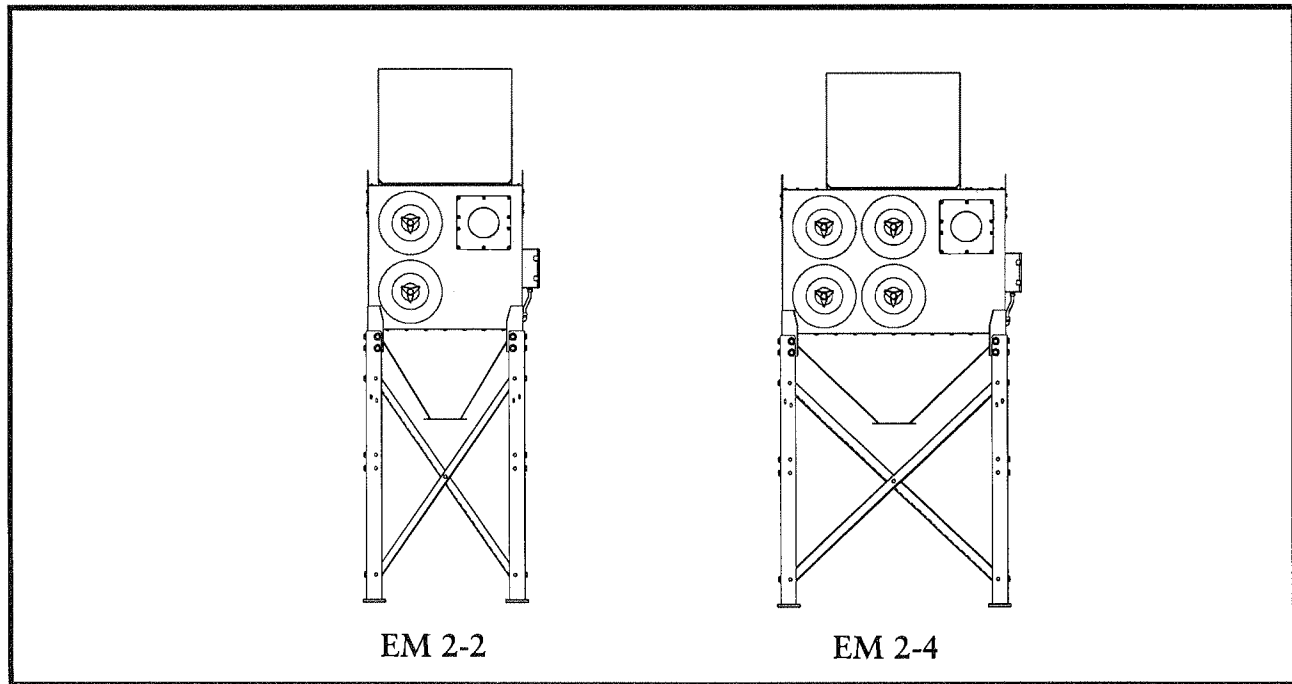

Figure 4
2.5.2 Leg Installation (See Figures 4 and 5)
The position of the legs and crossbracing for each collector size are shown in Figure 4. Please refer to the Leg Assembly drawing which accompanied the leg set for proper location and assembly. All leg designs are rated for seismic zone 3.
1. Stand the leg set up and position as shown in Figures 4 and 5.
5. Recheck the position of the leg sets and crossbracing against Figures 4 and 5 and the assembly drawing.